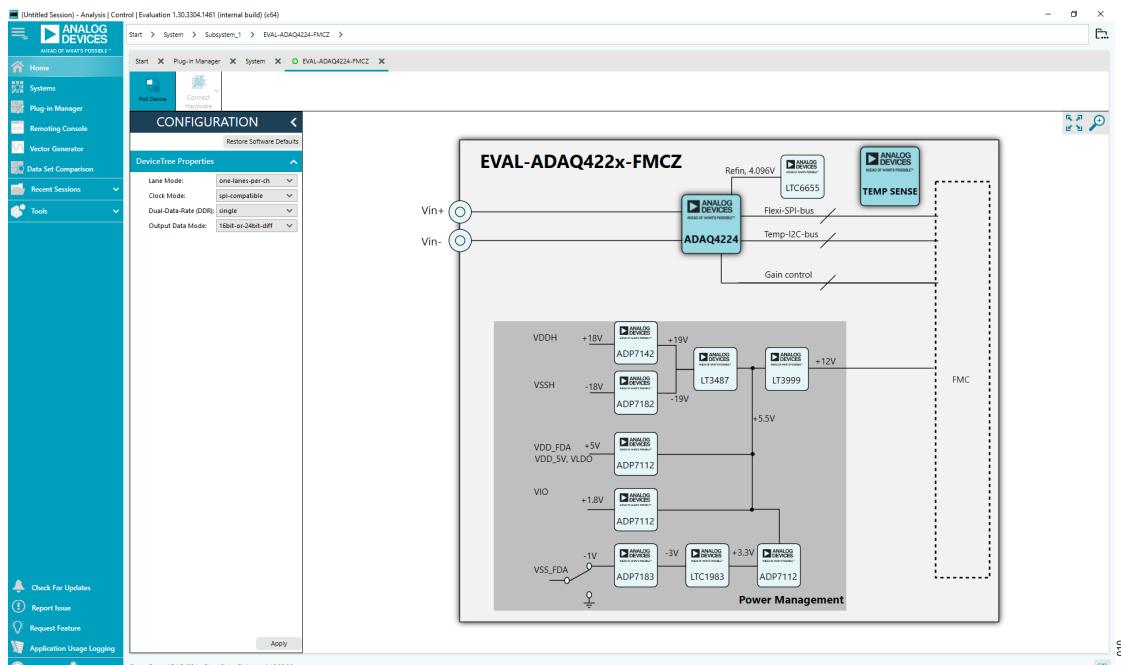

Figure 10. ADAQ4224 Board View Window
4. Double-click **ADAQ4224 Eval Board** icon to open the **Board** view tab, as shown in Figure 10.